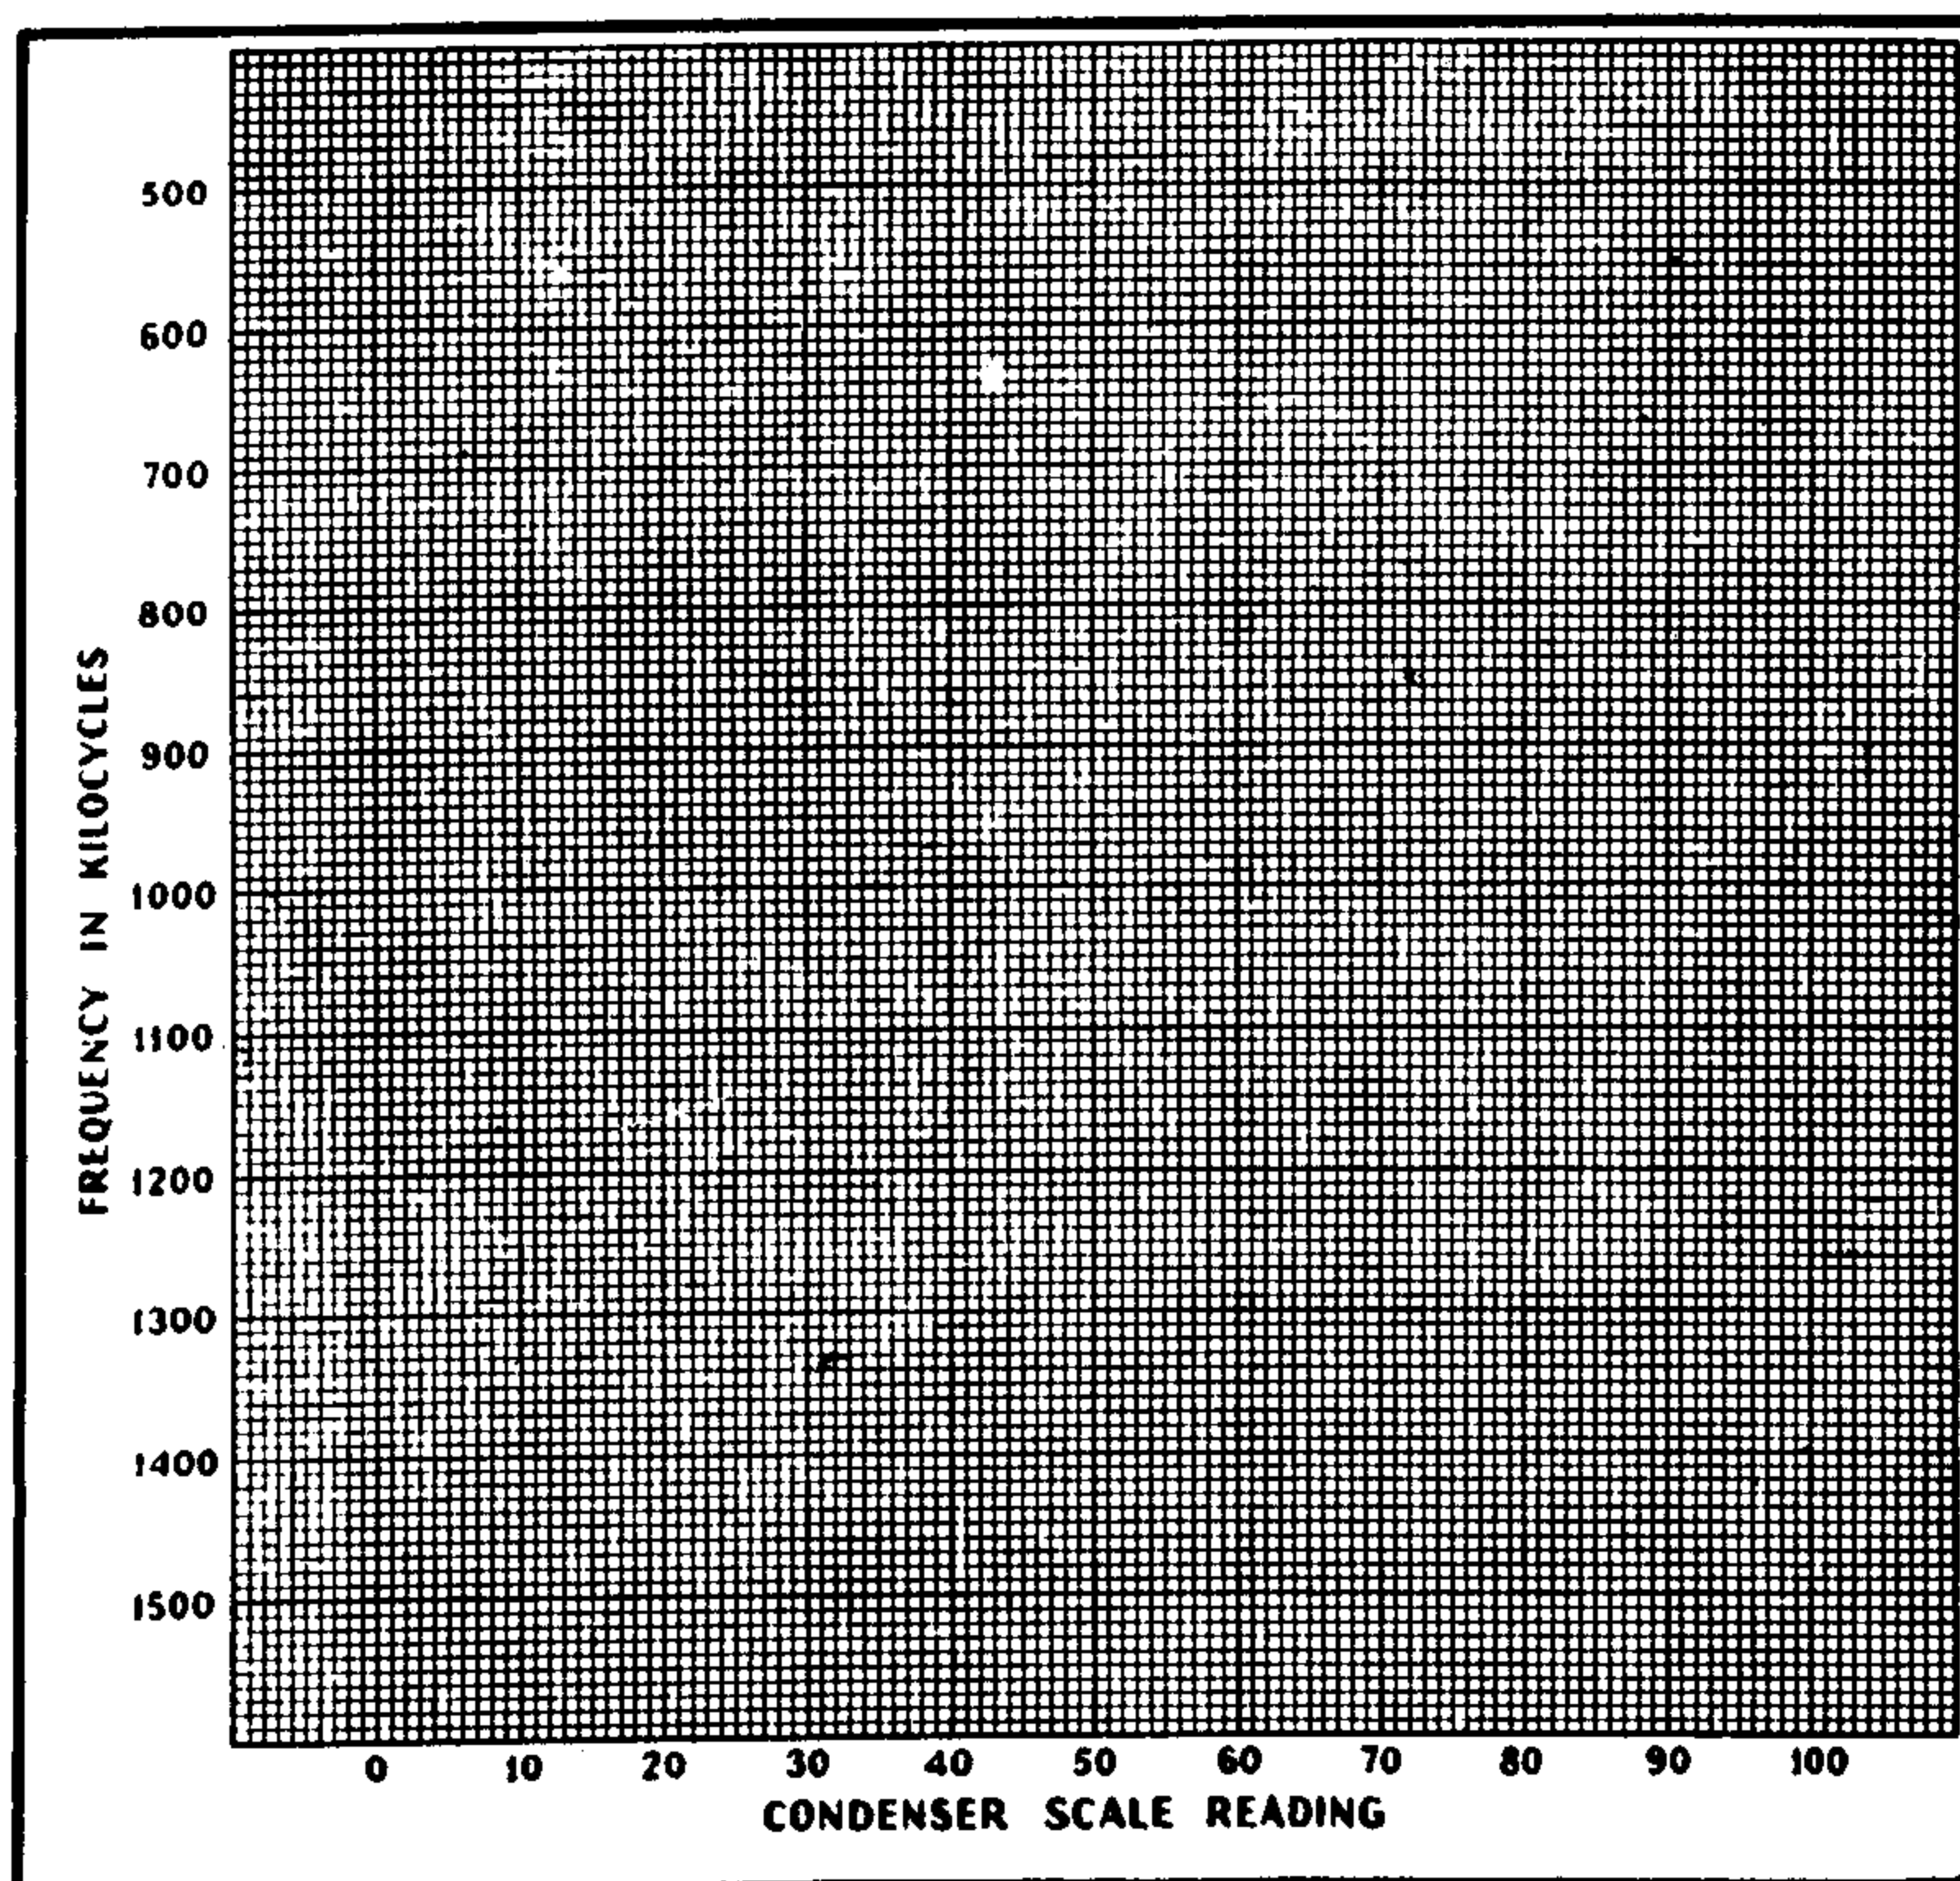

Fig. 5. Chart for Plotting R.F. Oscillator Calibration Curve
3. Adjust the dial of the oscillator until its signal is heard at maximum intensity in the receiver or zero beat is obtained with the broadcasting station. Note the reading of this position on the oscillator dial and plot this position on the chart shown in Figure 5. The vertical divisions represent frequency and the horizontal divisions, the oscillator scale readings.